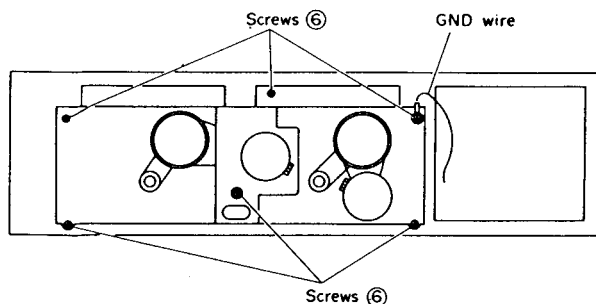

Fig. 1-3
- 2) The mechanism assembly can be removed by pushing the EJECT button, and removing the 6 screws ⑥ which secure the mechanism assembly. (Fig. 1-3)